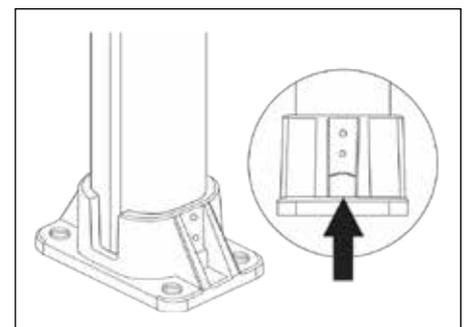

Figure 4
**H.** Screw the two self tapping screws on each side of each post as shown. See **Figure 4**.